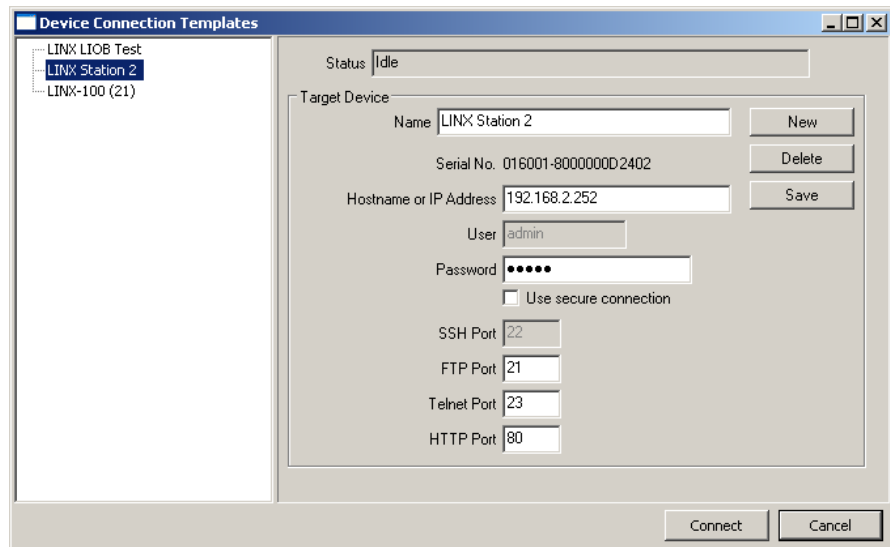

Figure 251: FTP connection dialog.
2. Select the menu: **Connection → Connect via FTP**. This opens the FTP connection dialog as shown in Figure 251.